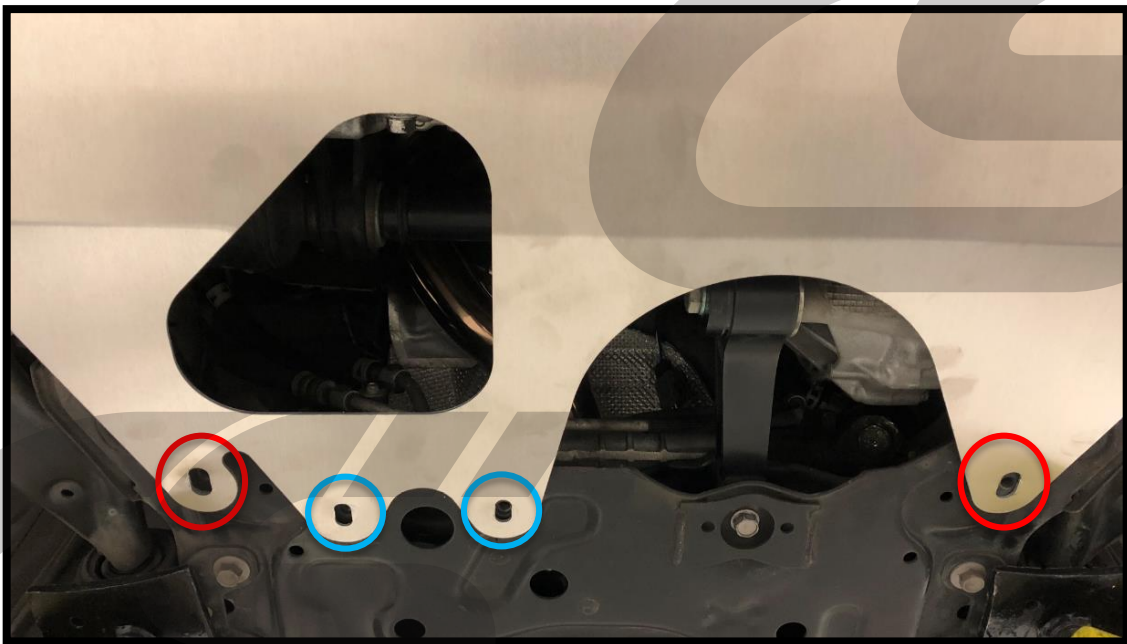

Figure 3g
- g) Using the supplied M12 bolts and washers, loosely attach the rear of the CorkSport Skid Plate to the threaded holes in the chassis. These M12 bolts fit into the two outer slots shown with red circles in **Figure 3g**.
- h) Using the supplied M10 bolts and washers, loosely attach the rear of the CorkSport Skid Plate to the threaded holes in the chassis. These M10 bolts fit into the two inner slots shown with blue circles in **Figure 3g**.